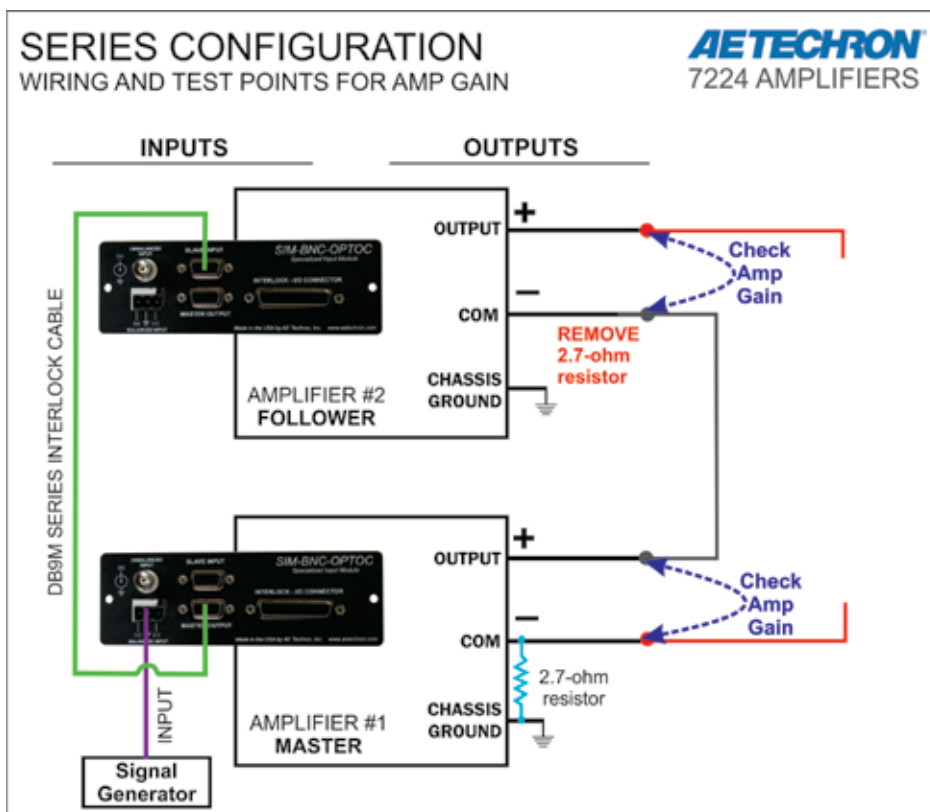

Figure B.2.41 – Wiring and Test Points for Amp Gain
- B. Apply a sine wave of 5Vrms at 100 Hz at the Master amplifier input. Using a voltmeter measure across each amplifier's back-panel output connector terminals (OUTPUT to COM) to verify an output from each amplifier of approximately 100Vrms (gain of 20). See **Figure B.2.41**. NOTE: If any amplifier's gain varies significantly from the set gain of 20, the amplifier may require servicing. Contact AE Techron Technical Support.